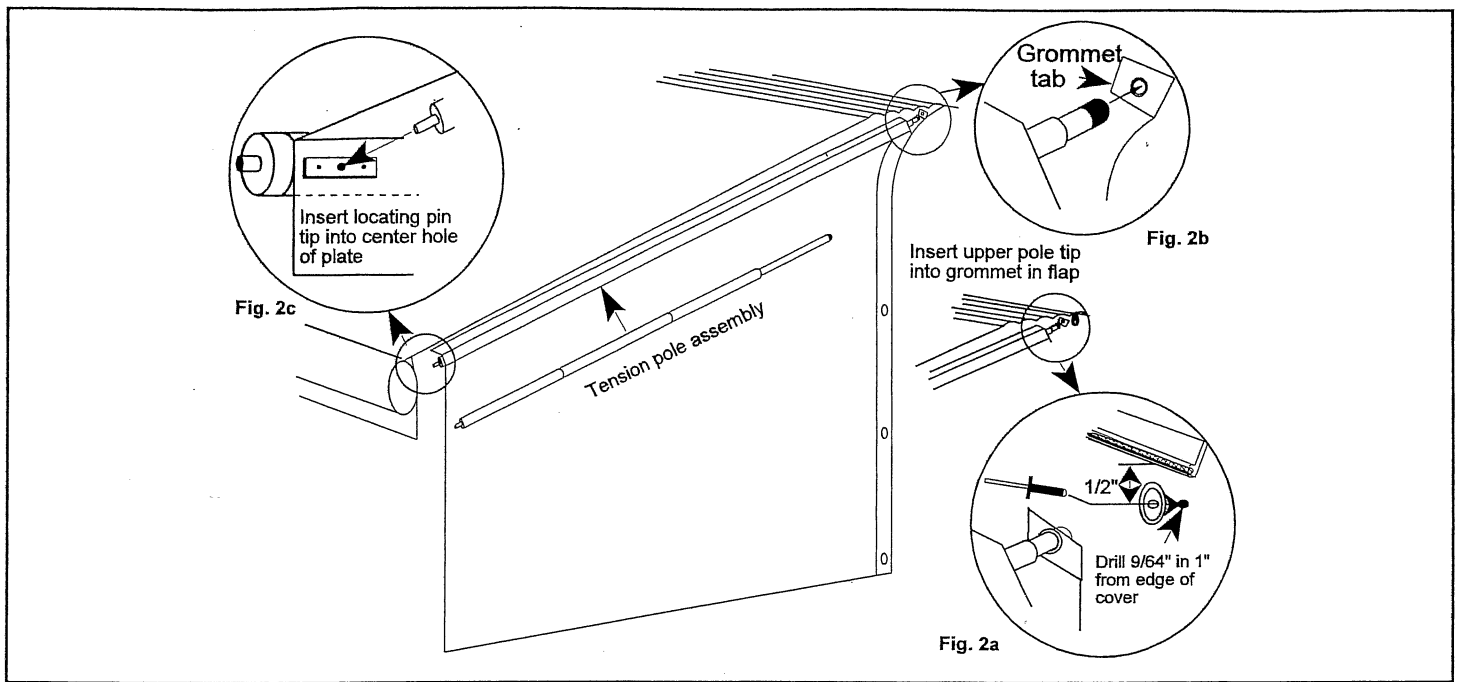

Figure 2
3. **Tension pole.** Assemble a 3 section Tension Pole and insert it into the top pocket of a Side Panel, starting at the zipper end. (**Fig. 2**) Fold the grommet tab at the top of the panel flap inward and extend the tip of the pole through the grommet. (**Fig. 2b**). Lift the Side Panel with the Pole and place the padded tip against the underside of the awning rail (Curved side coaches) or in the receiving socket (Flat side coaches) as described in step 2 and shown in **Fig. 2**. Compress the spring in the pole assembly by pushing it against the vehicle and insert the locating pin into the center hole of the Locating Plate. (**Fig. 2c**). Repeat for the other end.